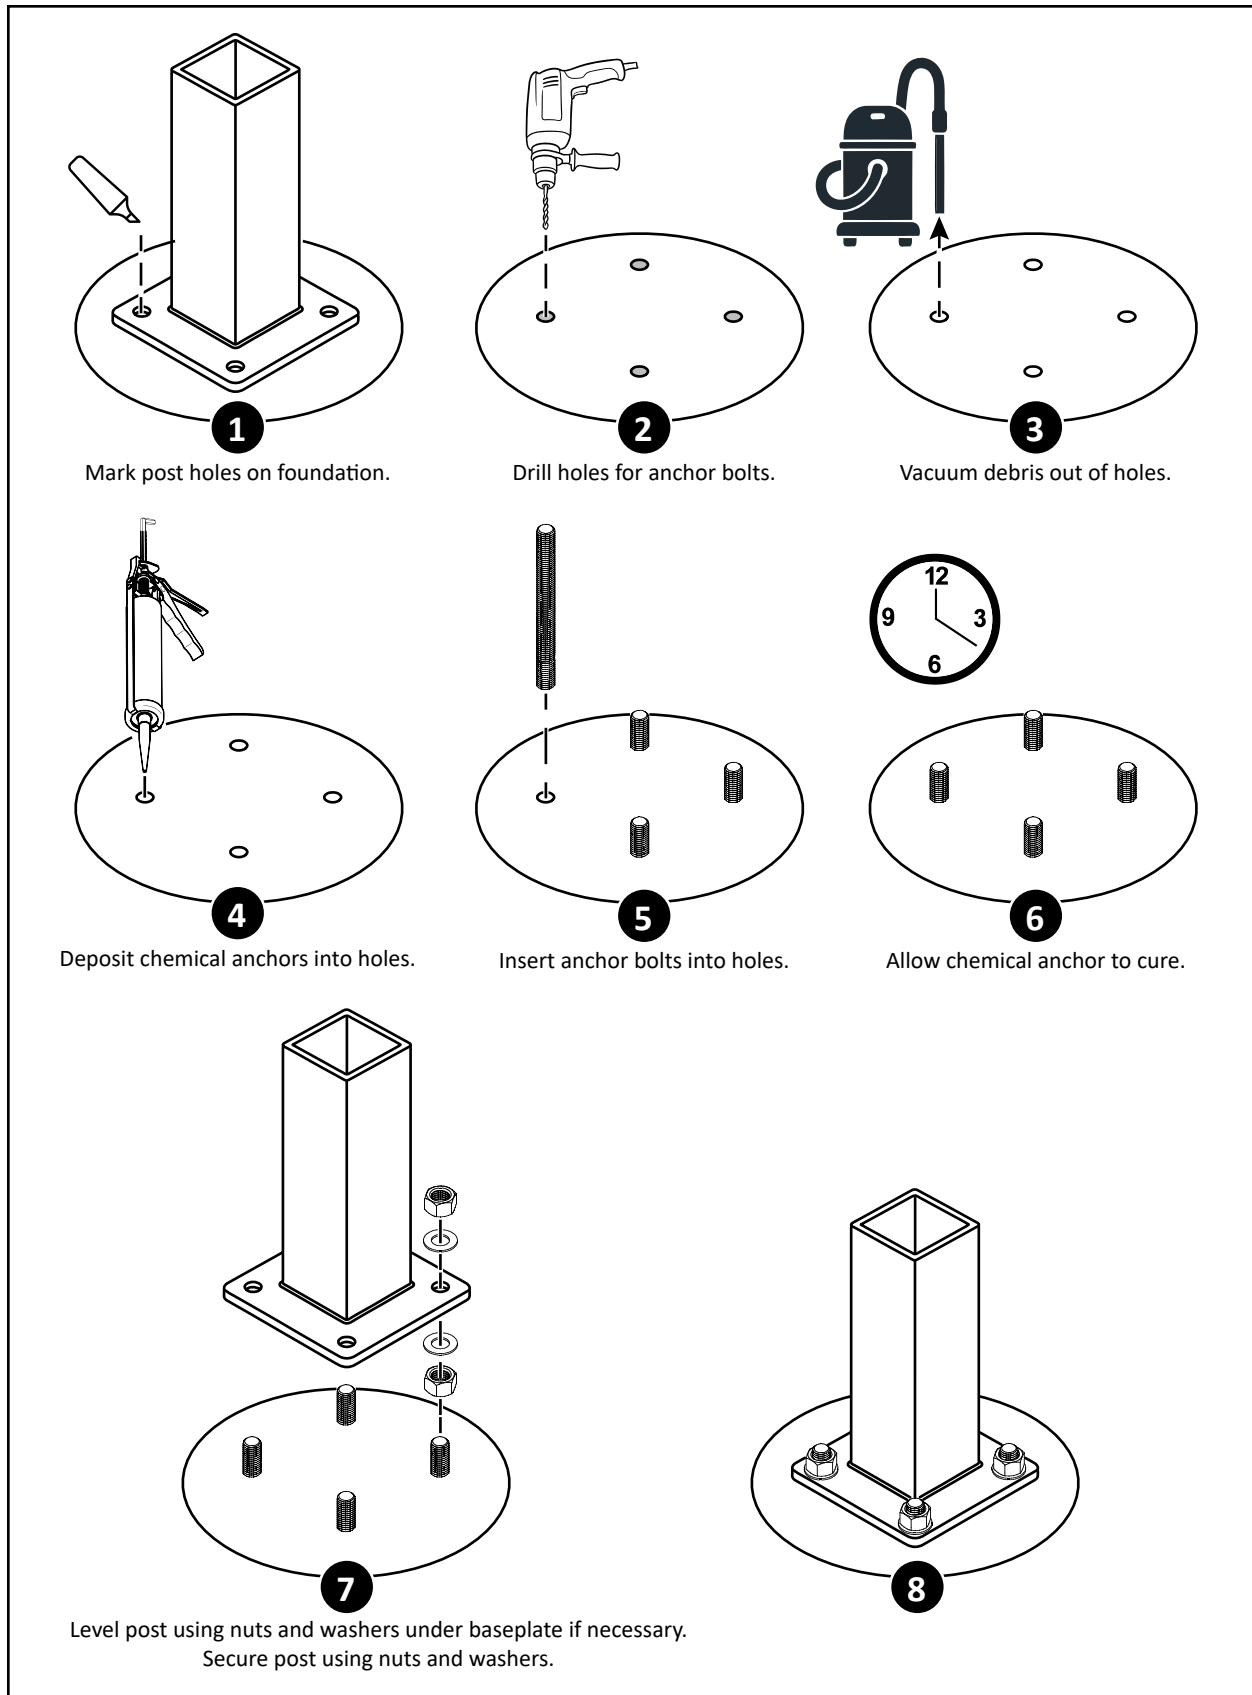

Figure 3: Flange post installation with chemical anchors
- If using chemical anchors: **Figure 3 on page 12**